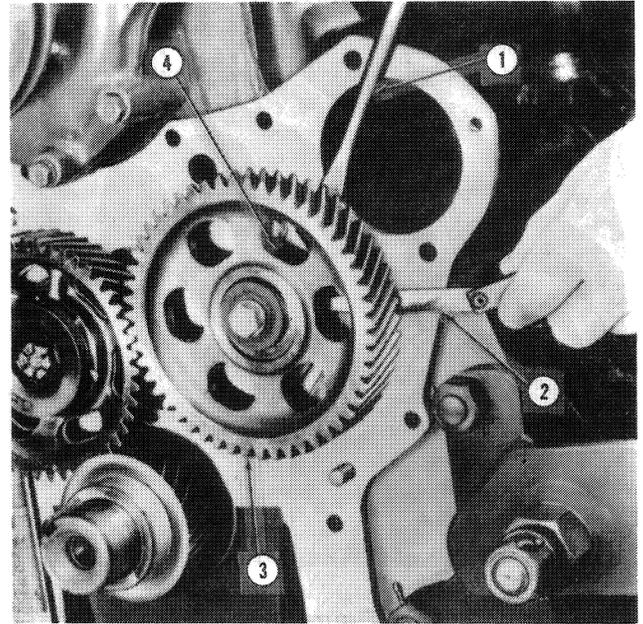

Figure 24
7. Pry the camshaft gear away from the thrust plate and using a dial indicator or feeler gauges, measure the clearance, Figure 24. Install a new camshaft thrust plate if the camshaft end play exceeds the specified limits, see "Specifications" — Chapter 3.